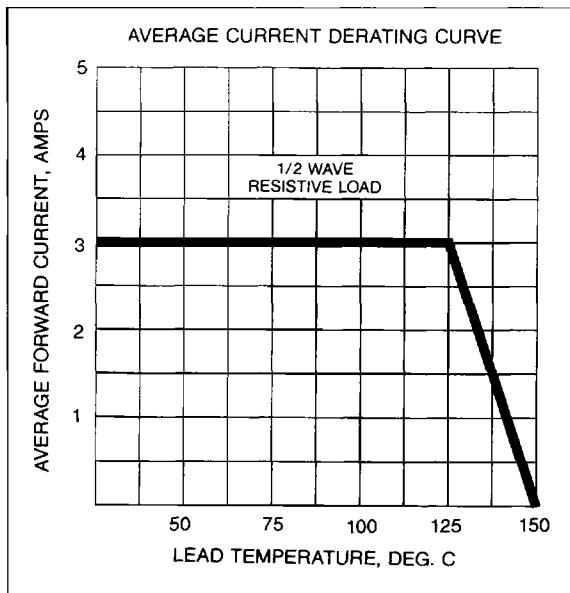

FIGURE 3
1. The derating curve of Figure 3 may be used for initial design work.